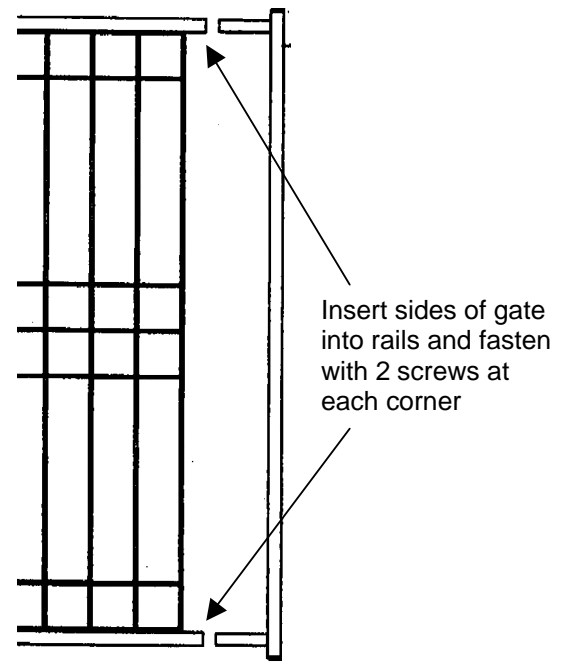

Figure 2
2. Attach the verticals of the gate by inserting them into the horizontal rails of the section and fastening with two self-drilling screws at each corner. (See Figure 2.)